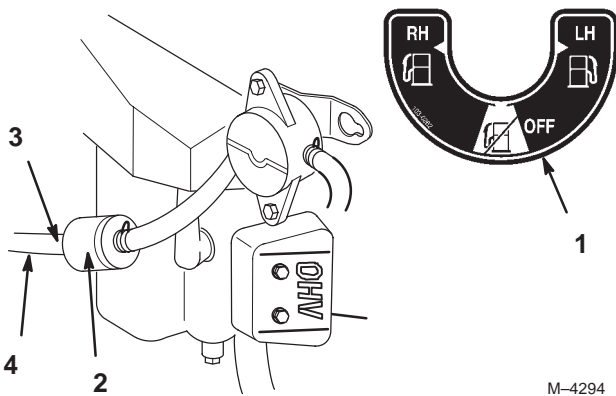

Figure 41
5. Install a new filter and move the hose clamps close to the filter (Fig. 41).
2. Close the fuel shut-off valve (Fig. 41).
3. Loosen the hose clamp at the fuel filter and slide it up the fuel line away from the fuel filter (Fig. 41).
4. Pull the fuel line off of the fuel filter (Fig. 41).
5. Open the fuel shut-off valve for the left and right tanks. Allow gasoline to drain into a gas can or drain pan (Fig. 41).
6. Install the fuel line onto the fuel filter. Slide the hose clamp close to the fuel filter to secure the fuel line (Fig. 41).